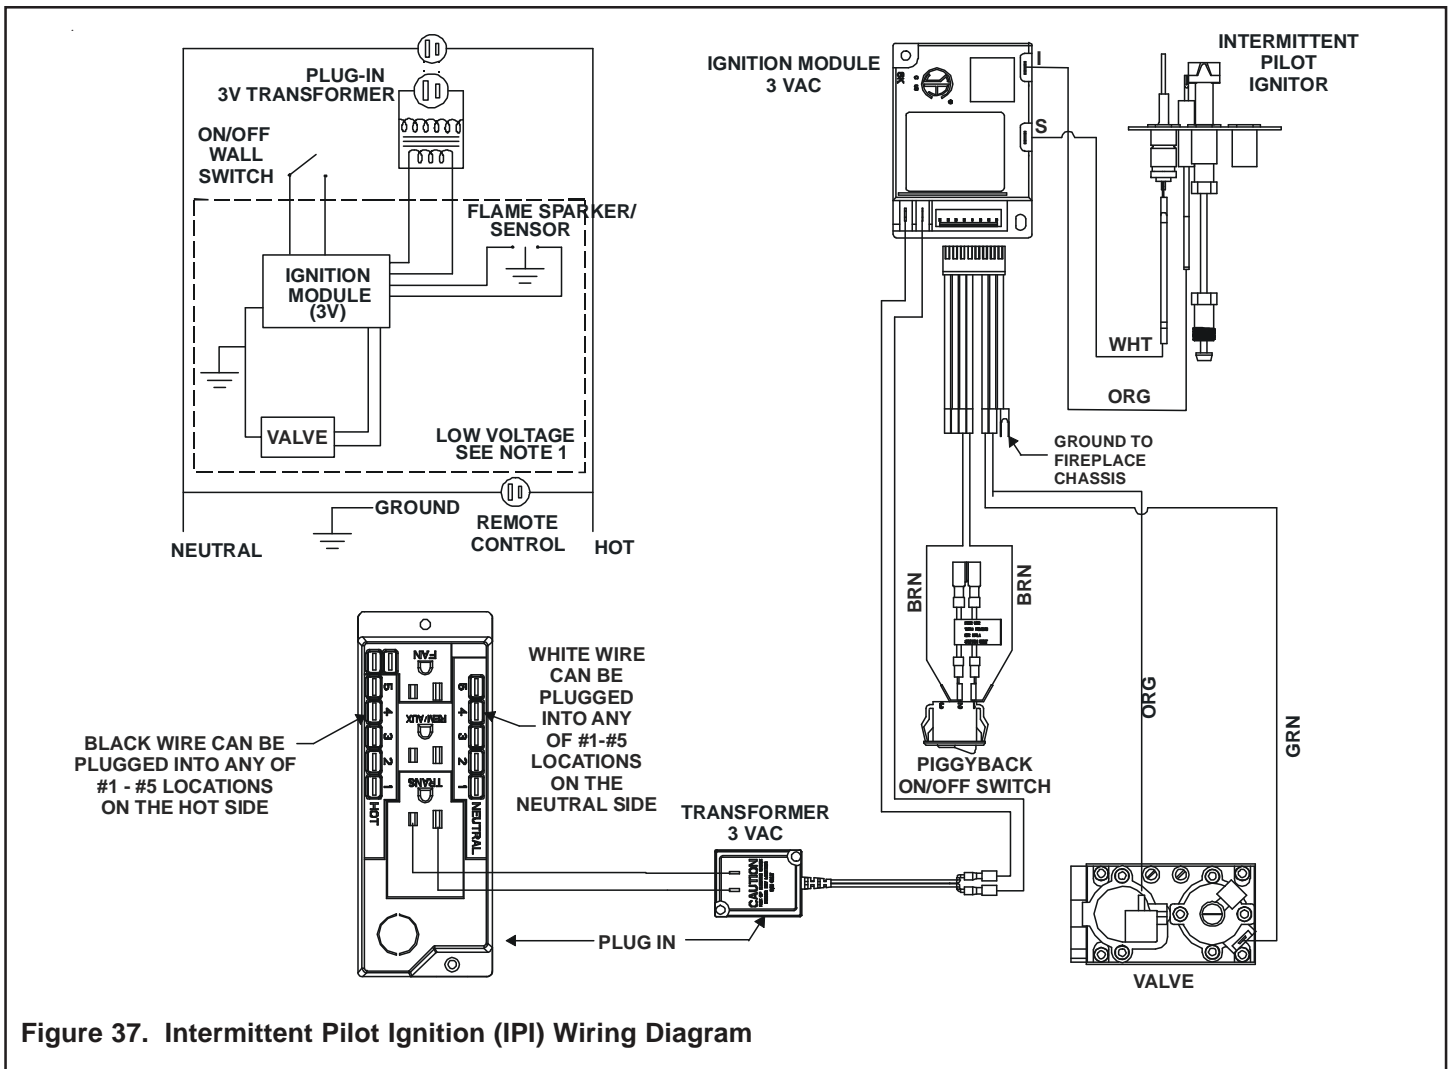

Figure 37. Intermittent Pilot Ignition (IPI) Wiring Diagram
- This appliance comes with a 3 volt transformer. The transformer plugs into the junction box and the two leads plug into the green control module (see Figure 37).